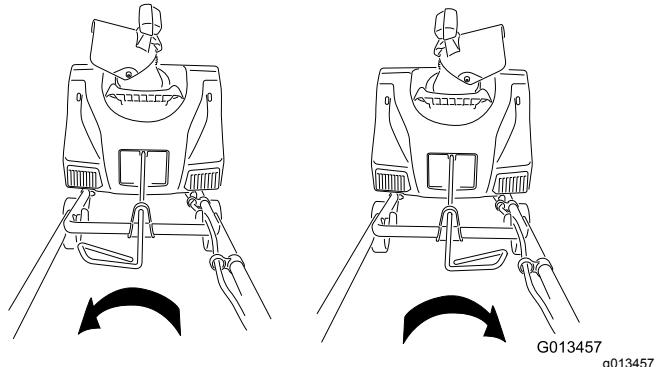

Figure 7
6. Move the handle on the chute control rod to ensure that it moves in the same direction as the chute (Figure 7).
To adjust the discharge chute, move the handle on the chute control rod in the direction that you wish to direct the snow stream (Figure 6 and Figure 7).